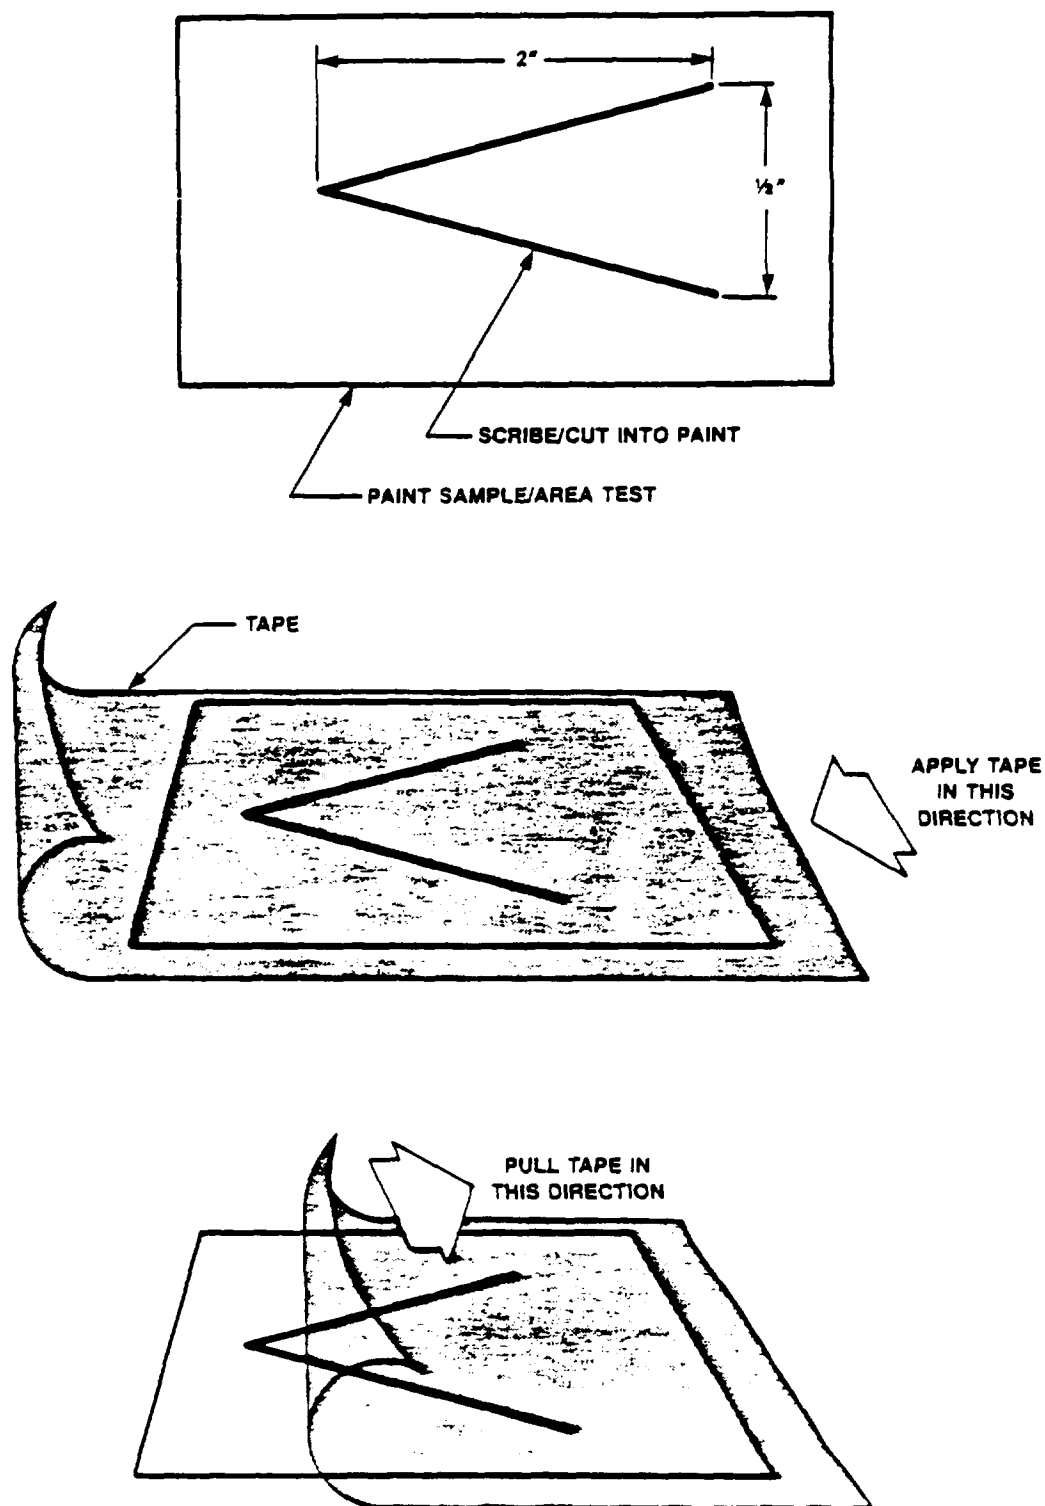

Figure 3-1. Tape Test.
(See figure 3-1.) Test paint adhesion on coated surfaces. Do not use test panels instead of actual production units. Test the surface after the paint finish has cured on an out of the way place acceptable to quality assurance representatives as follows:
*a.* Make a V-shaped scratch through the paint finish with a sharp metal blade. Make the scratch approximately two (2) inches long and one half (1/2) inch between edges at the widest point.
*b.* Press a piece of pressure sensitive tape (3M code no. 250 or equivalent) firmly over the V, in the direction indicated on figure 3-1. Press out air pockets.
*c.* Wait at least ten seconds, then quickly pull the tape away, in the direction indicated in figure 3-1.
(1) If no paint comes off of the taped area, the coating is acceptable. (Removal of overspray (para 4-13a) is not a test failure.)
(2) If the topcoat, primer or pretreatment comes off with the tape, then the coating has failed the test and must be removed and another coating applied and tested.
(3) After test is passed, repair the scratched area by feathering-in with appropriate pretreatment, primer and topcoat.